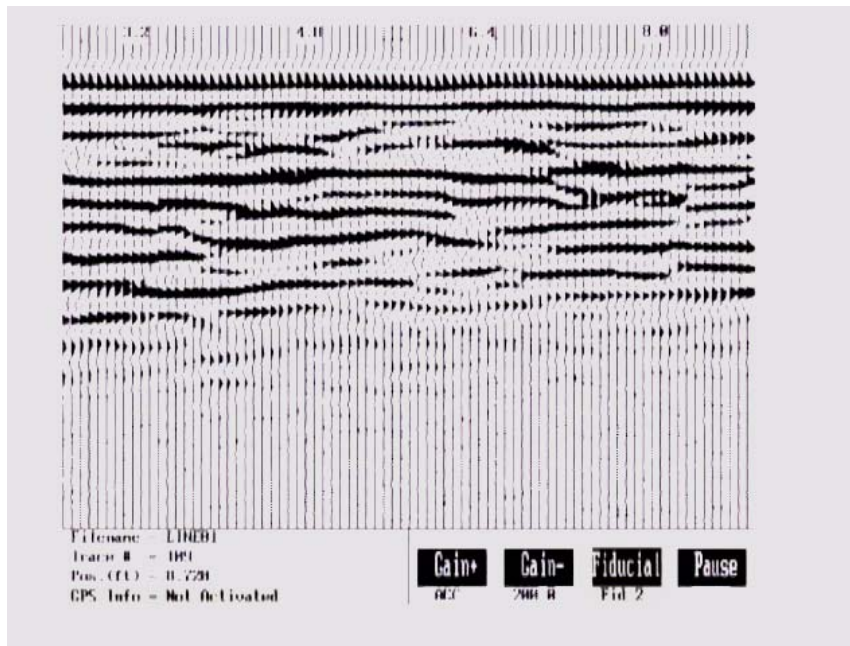

Figure 5-5: Data collection screen with traces plotted in wiggle trace mode with shading on the right (Section 3.5.1: P56)
**Trace Type:** Depending on the user's choice for Trace Plotting Type (Section 3.5.1: P56) the data will be plotted as either grey scale (Figure 5-4) or wiggle traces (Figure 5-5).